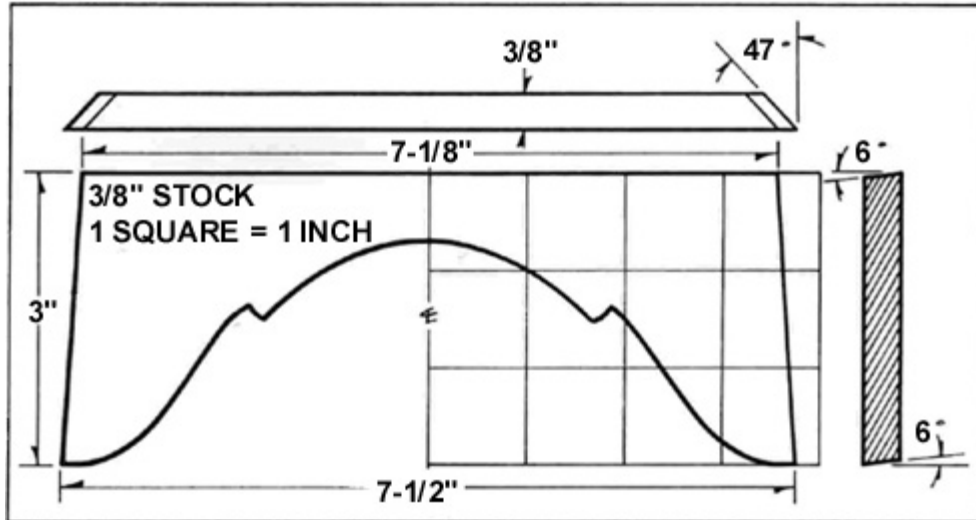

Figure 9: Valance Layout
Step 6: Cut and Fit the Valance (K)
3. Rip along the top edge of the stock to create the valance's (K) final 3" width (see **Figure 9**).
4. Hold the valance (K) in place on the case.
7. Refer to the grid pattern in **Figure 9** to lay out the valance profile.
9. Use glue and brads to mount the completed valance (K) to the case.
10. Miter the quarter-round molding (L) as needed.
11. Apply the molding (L) to the valance (K), side pieces (A), and back pieces (B) with glue and small brads. **NOTE: Because the quarter-round molding (L) is small, you do NOT need to adjust it further to make it comply with the taper.**